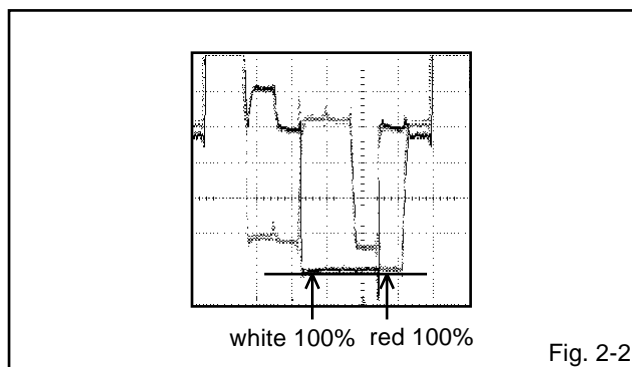

Fig. 2-2
8. Press the VOL. UP/DOWN button on the remote control until the red color level is adjusted to 110% of the white level. **(Refer to Fig. 2-2)**